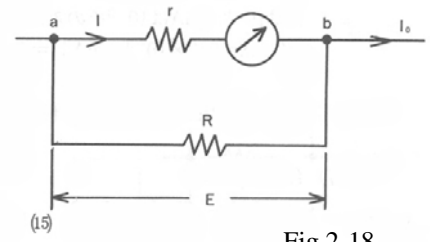

Fig 2-18
The current I in Fig 2-18 is expressed as follows from Ohm's law (1) :  $I = \frac{E}{r}$